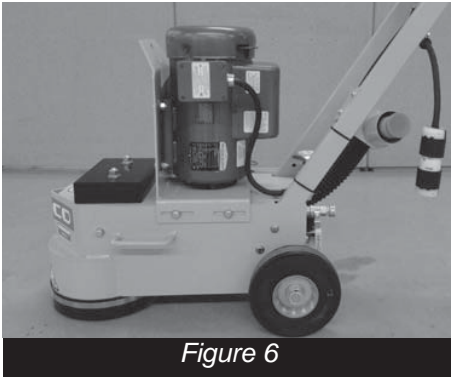

Figure 6
- Keep the grinding disc flat - do not attempt to grind against vertical surfaces. Be sure the machine is in the correct operating position. (See Figure 6 on next page..)